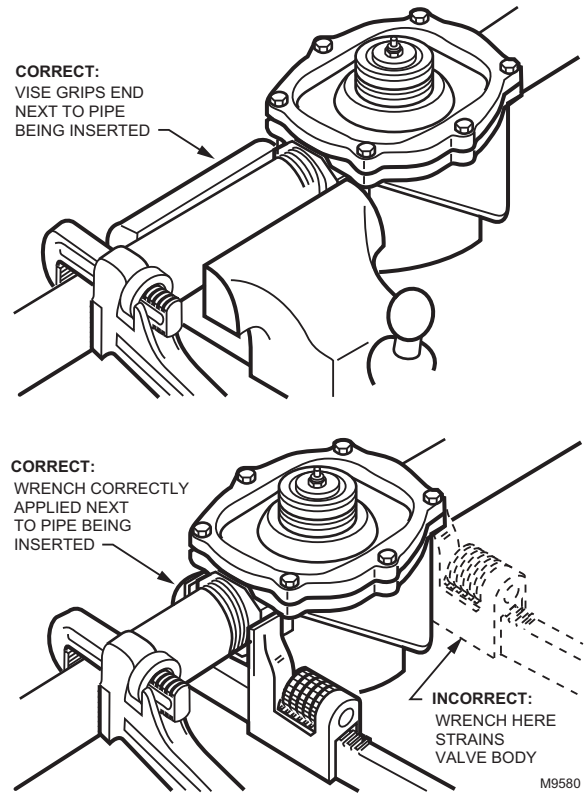

Fig. 5. Installing a 3/4 through 3 in. V5055 Valve.
6. Apply a parallel jaw wrench only to the flat next to the pipe being inserted (Fig. 5). A wrench applied to the valve body itself, or to the end farthest from the pipe being inserted, may distort the casting, causing a malfunction. Do not use the valve for a lever.